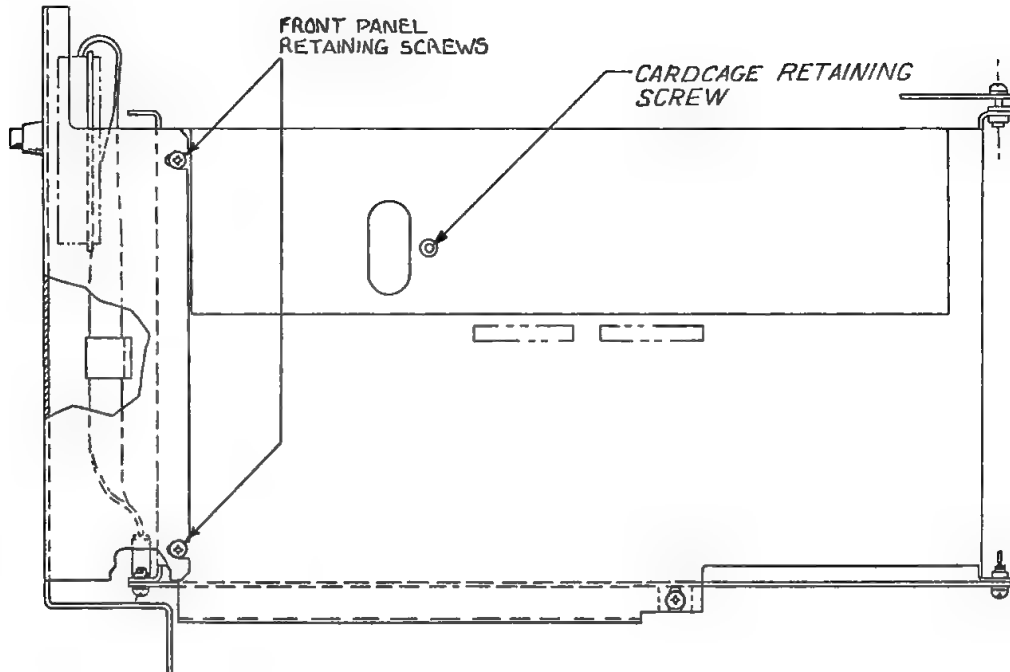

Figure 4-5. Cardcage Side View
- Remove the four retaining screws holding the front panel on the cardcage, see Figure 4-5.